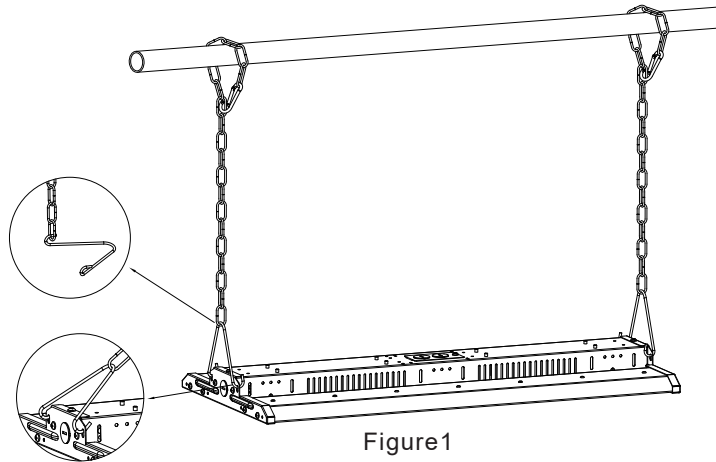

Figure 1
Step 1. Connect the included chain to fixture (Figure 1).
Step 2. Place the chain on the rail, and adjust the chain length as needed (Figure 1).